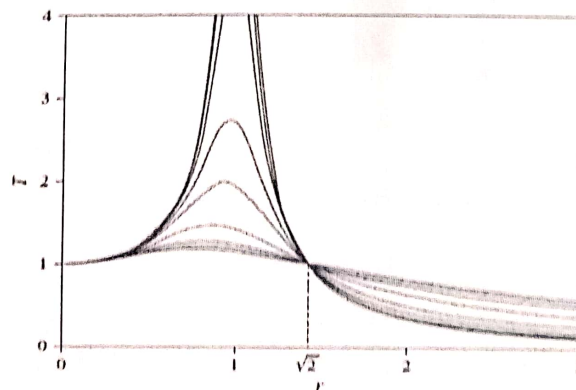

Figure 4b
- Explain the characteristics of the graphs in respect of increasing damping ratio, ζ . Use Fig 4b as aid for this.